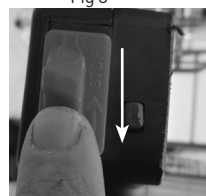

Fig 4
- 2) Push ON/OFF switch (5) to the ON position (Fig 4).
- 6) To stop the engine, push the ON/OFF switch (5) (Fig 4) to the OFF position.